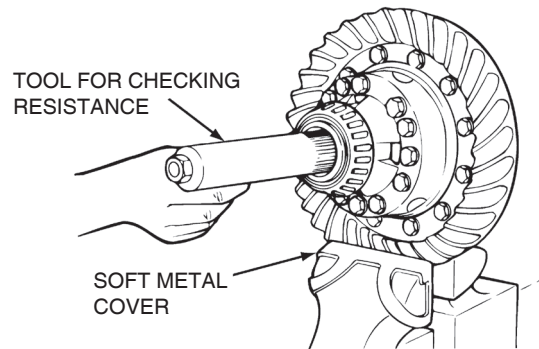

Figure 5.28
2. Place the case halves ensemble and ring gear into a vise. Install soft metal covers over the vise jaws to protect the ring gear. Figure 5.28.
3. Install the tool into the differential until the splines of the tool are engaged with one side gear. Figure 5.28.